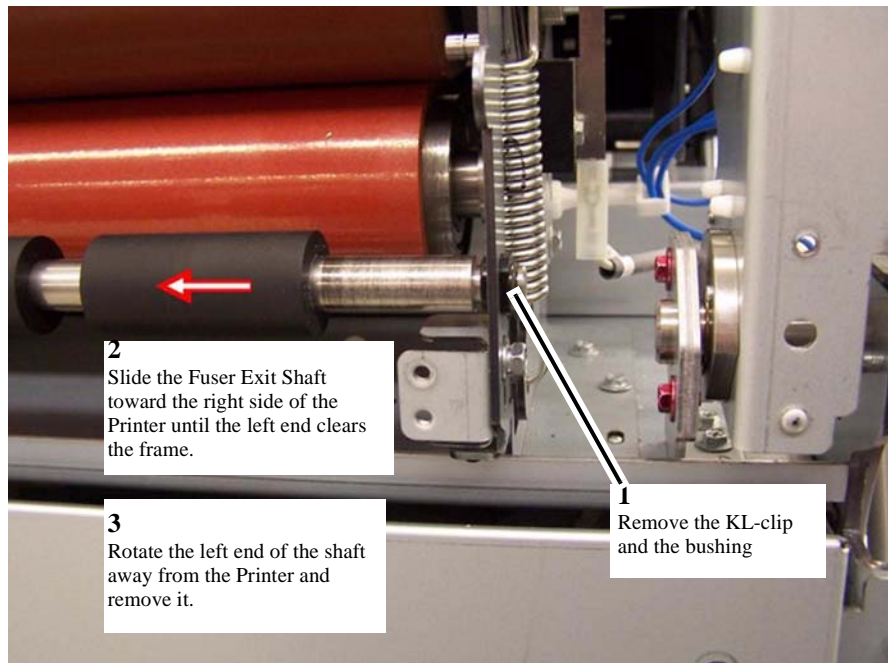

Figure 2 Exit Shaft removal (left side of Printer)
6. Remove the components at the left end of the Fuser Exit Shaft, and then remove the shaft (Figure 2).